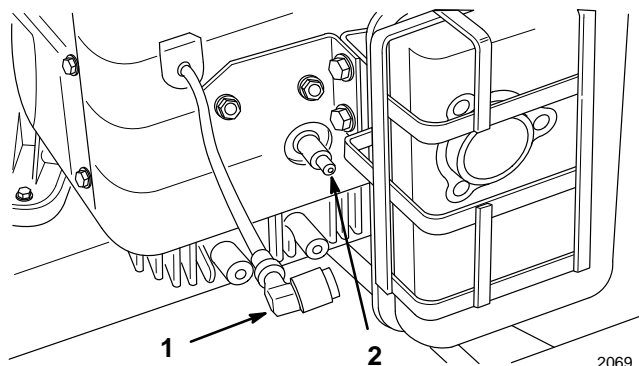

Figure 22
2. Pull the wire(s) off the spark plug(s) (Fig. 22). Now clean around the spark plug(s) to prevent dirt from falling into the engine and potentially causing damage.
3. Push the wire(s) onto the spark plug(s) (Fig. 22).